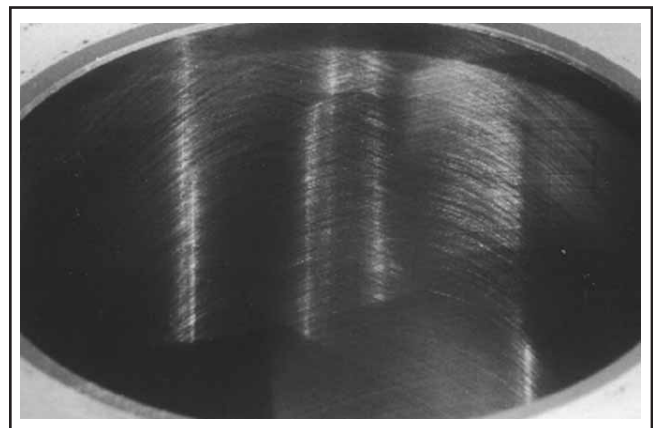

Figure 9-1. Cylinder Bore Crosshatch After Honing.
3. When the bore is within **0.064 mm (0.0025 in.)** of the desired size, remove the coarse stones and replace them with burnishing stones. Continue with the burnishing stones until the bore is within **0.013 mm (0.0005 in.)** of the desired size and then use finish stones (**220-280 grit**) and polish the bore to its final size. A crosshatch should be observed if honing is done correctly. The crosshatch should intersect at approximately 23°-33° off the horizontal. Too flat an angle could cause the rings to skip and wear excessively, and too steep an angle will result in high oil consumption. See Figure 9-1.